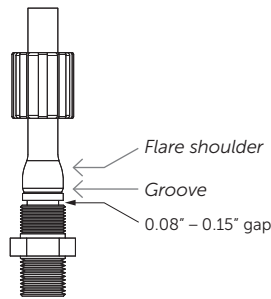

Figure 4.
- Push the flared tubing end onto the Flaretek fitting body until the end of the fitting body contacts the flare transition of the tube (see Figure 4). The maximum gap between the tube end and fitting shoulder should be 0.08" to 0.15".